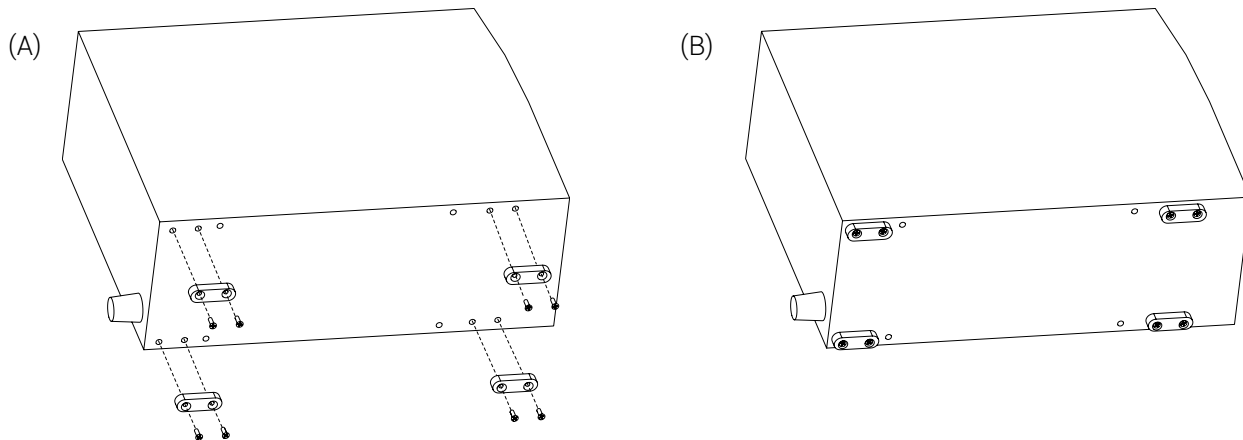

Figure 35: Installation of the glides
2. Install the four (4) glides under the UPS unit using eight (8) countersunk head screws 10-32 X 5-8, two (2) lock washers, two (washers) and a screwdriver (Figure 35).